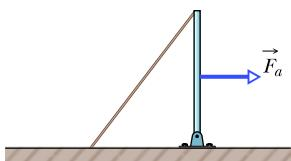

Figure 12.8 Question 9.
**9** In Fig. 12.8, a vertical rod is hinged at its lower end and attached to a cable at its upper end. A horizontal force  $\vec{F}_a$  is to be applied to the rod as shown. If the point at which the force is applied is moved up the rod, does the tension in the cable increase, decrease, or remain the same?